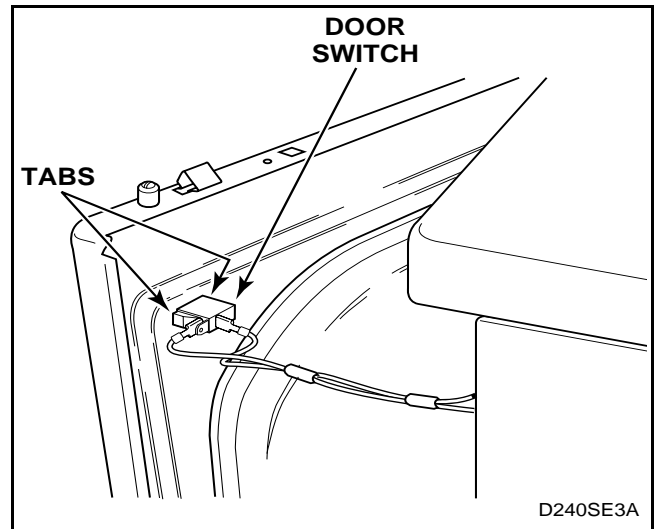

Figure 34
- Disconnect wires from door switch. See Figure 34.
- Depress tabs on switch and push out of front panel. See Figure 34.
- d. Disconnect wires from door switch. See Figure 34.